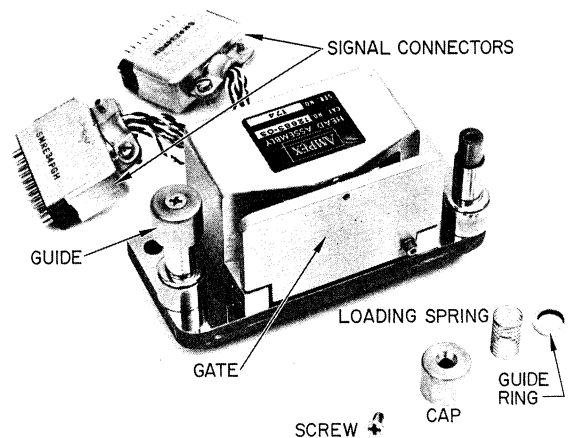

Figure 5-4. Head Assembly
Step 1. Connect equipment as shown in Fig. 5.4 (set counter for a repetitive 100 ms count time) and thread test tape on transport.
5-18. A typical head assembly (Figure 5-4) is composed of two tape guides, a write head stack, a read head stack, a hinged shield, base plate, and head cover. Accuracy of tape guiding across the heads is ensured by the precise machining of the base and tape guides, which are mounted at either side of the head stacks. The guide edges are accurately positioned to ensure interchangeability of tapes from machine to machine. The exact head assembly used on individual machines is shown in Section IX.